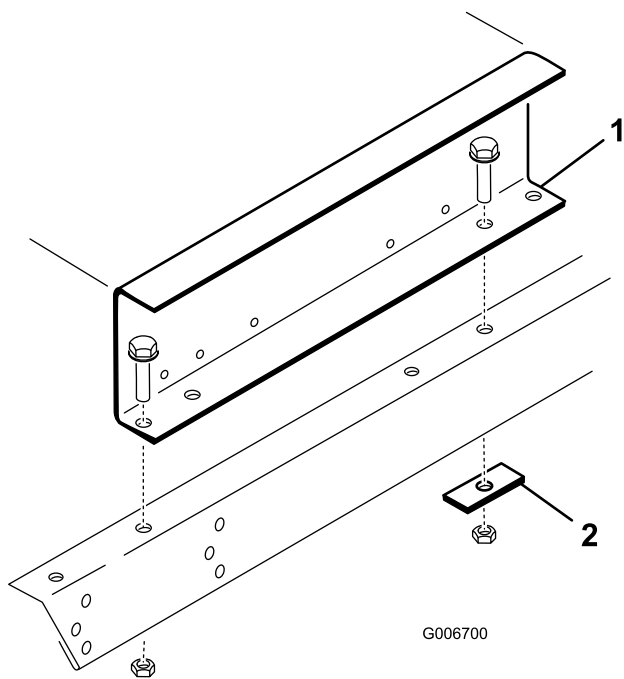

Figure 12
27. Mount each side of lift to frame channels with a reinforcing plate and (2) 3/8-16 x 1" large flange head capscrews and flange nuts (Figure 12). Reinforcing plates to be used in rear mounting holes only.